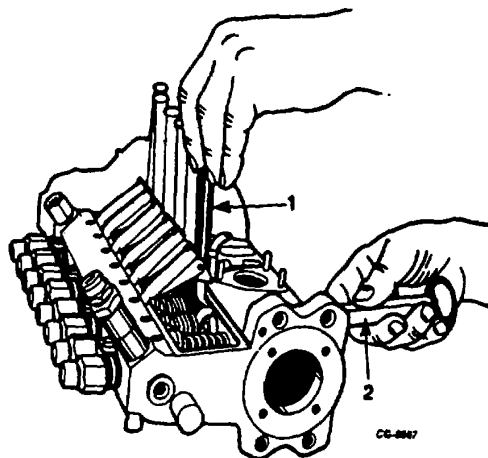

Figure 24. Removing Holder Tool and Tappet
12. Using SE-2345 tappet remover tool, push roller tappet up so that SE-2341 tappet holder tool can be removed (Figure 24). Clear holder tools from all eight tappets and remove roller tappet assemblies from pump housing. Keep parts in order so that tappets can be returned to their respective bores on reassembly.